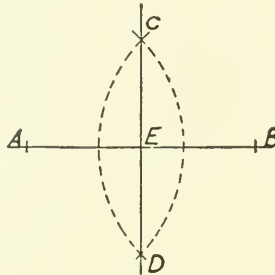

Fig. 574
1. To bisect a straight line (Fig. 574).—Let AB be the given straight